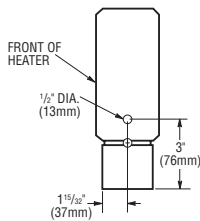

Figure 9. End Cap Drill Pattern
5. Connecting power supply cables may be routed from heater to heater by drilling a 1/2-inch (13mm) diameter hole in the end caps for the heaters that fit together. See Figure 9. To prevent possible damage to internal heater wiring, all drilling of end caps must be done with end caps removed from heater.